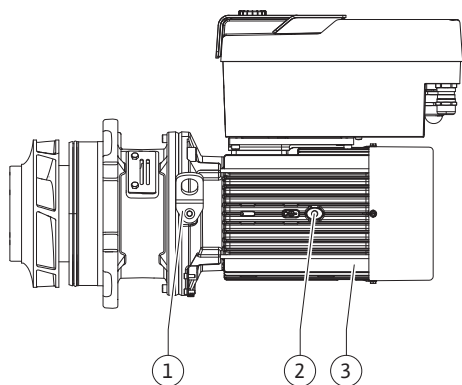

Fig. 107: Motor impeller unit
13. Insert the motor impeller unit (see Fig. 107) into the pump housing in the old or another desired angular position. Observe permitted installation positions of the components (see section "Permitted installation positions and change of the arrangement of components before installation" [► 143]).